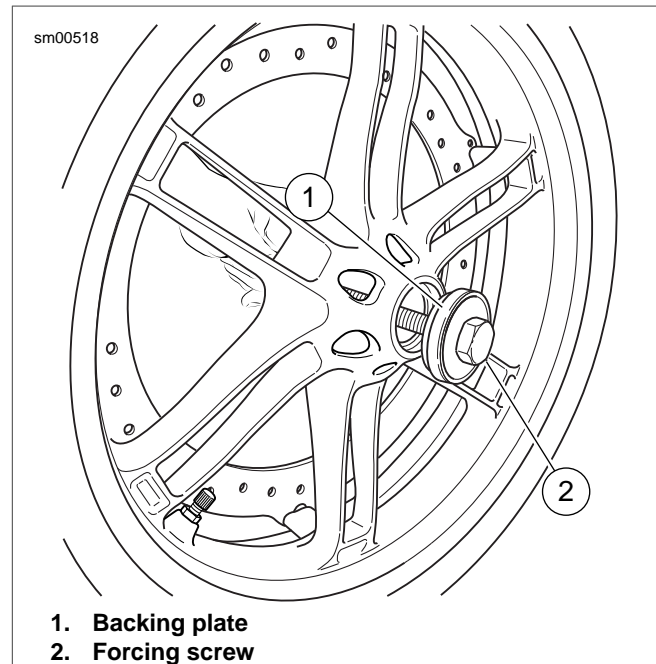

Figure 2-11. Install the Backing Plate (B-43993-12) and Forcing Screw
- See Figure 2-11. Install the BACKING PLATE (Part No. B-43993-11 front wheel)(1) onto the long forcing screw (2) from the WHEEL BEARING INSTALLER/REMOVER (Part No. HD-44060A), with the smaller diameter toward the wheel hub. Insert the forcing screw and backing plate into the wheel hub.